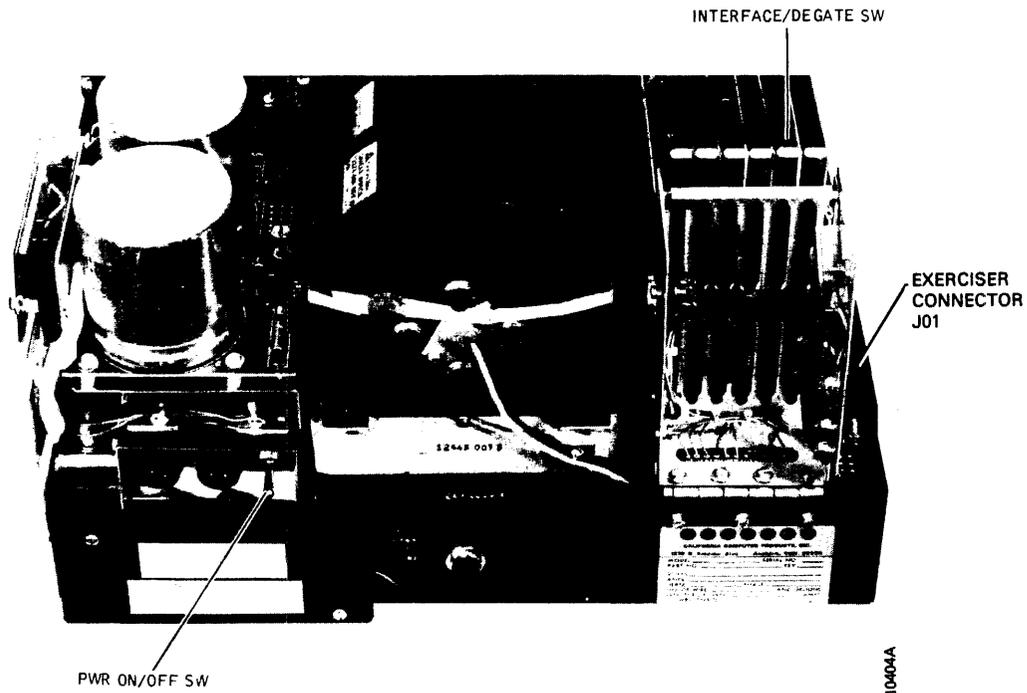

Figure 1-4. Location of Maintenance Switches
Figure 1-4 shows the locations of the two maintenance switches not normally used by operators. A functional description of each is contained in Table 1-4.
Maintenance Switches (See Figure 1-4)
2. Place the exerciser adjacent to the disk drive, and install interconnecting cable between the exerciser and connector J01 on the disk drive card cage assembly. See Figure 1-4.